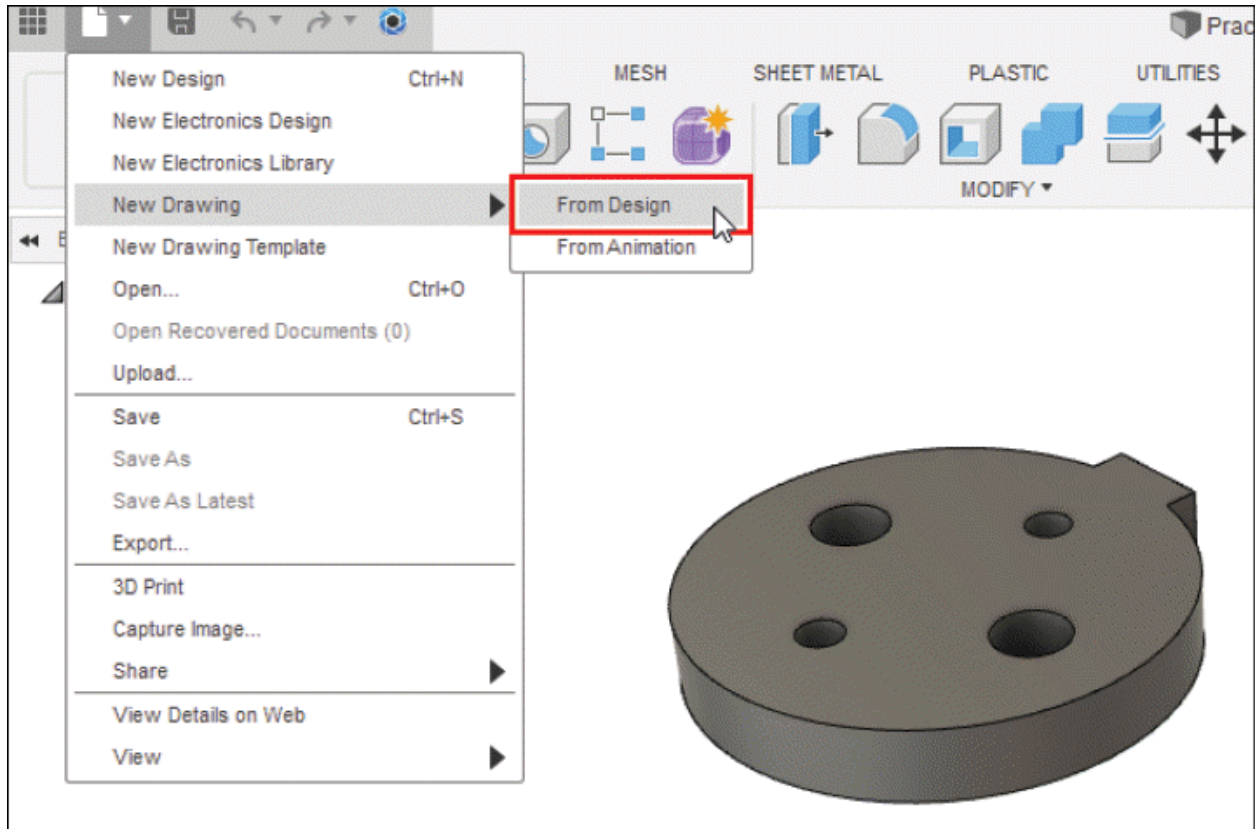

Figure-142. Starting new drawing
- Click on the **From Design** option from **New Drawing** cascading menu of the **File** menu; refer to Figure-142. The **CREATE DRAWING** dialog box will be displayed.